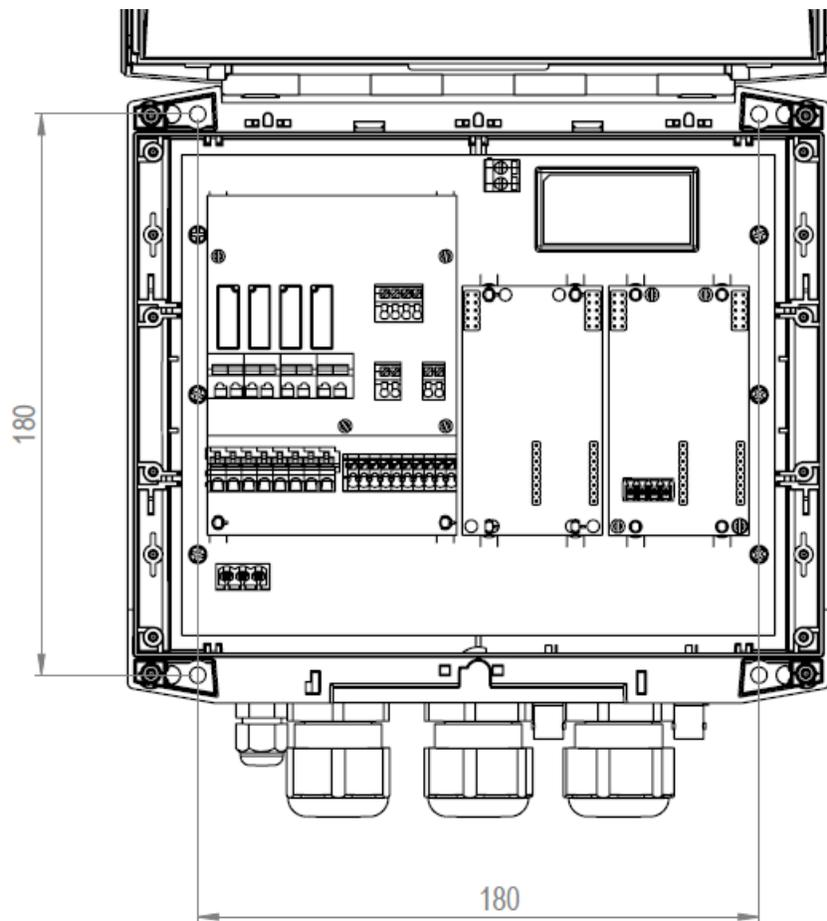

Fig. 2 - Measurements for wall fixing 229l x 204h
Comply with standards in force in the different countries regarding electrical installation (Fig. 2). The instrument is supplied without power cord. **The device must be connected to the mains by means of an omnipolar disconnecting switch with at least 3 mm between the contacts. All the power supply circuits must be interrupted before accessing the connection devices.**
The wall-mounting plugs are supplied with the device. **Always use a plug suitable to the available support.** The layout of the holes to be drilled on the support is displayed in Figure 2.
To access the 4 installation holes, remove the covers on the installation points (A) found on each corner of the instrument, use a Phillips screwdriver to loosen the four screws underneath the covers, then open the front panel (see Fig.2).